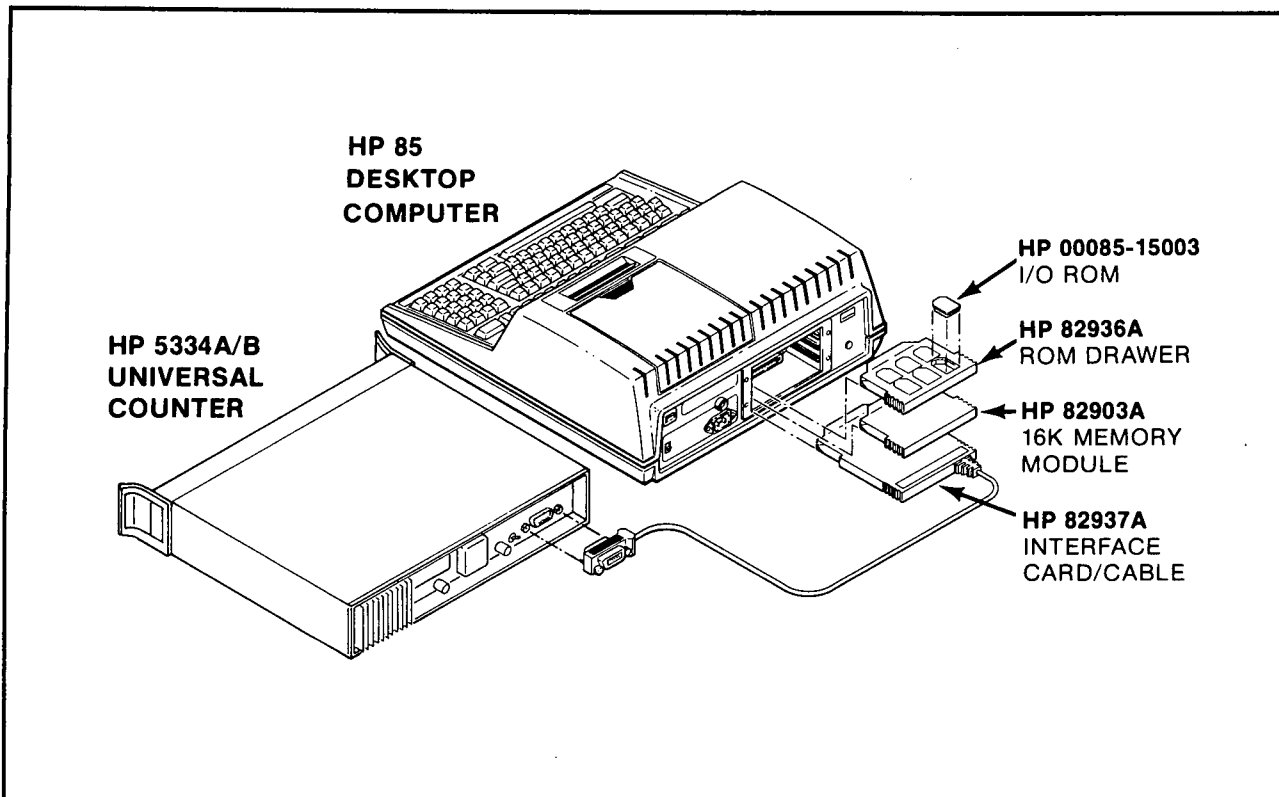

Figure 4-15. HP-IB Verification Test Setup
1. Connect the equipment as shown in *Figure 4-15*.